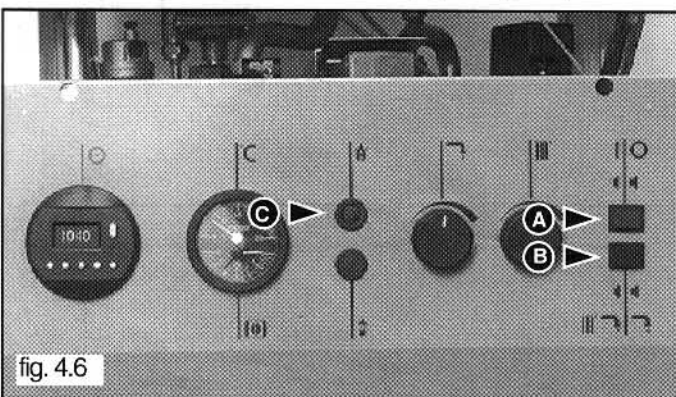

fig. 4.6
- 1 Switch on the electricity and turn on boiler by pushing button "A", ensuring that the neon is on. (If neon does not come on then check electrical connections) (see fig. 4.6).
- 2 Select heating mode by setting button "B" to heating mode (see fig. 4.6).
To reset the boiler, depress the reset push button "C" marked with the symbol \diamond (see fig. 4.6).